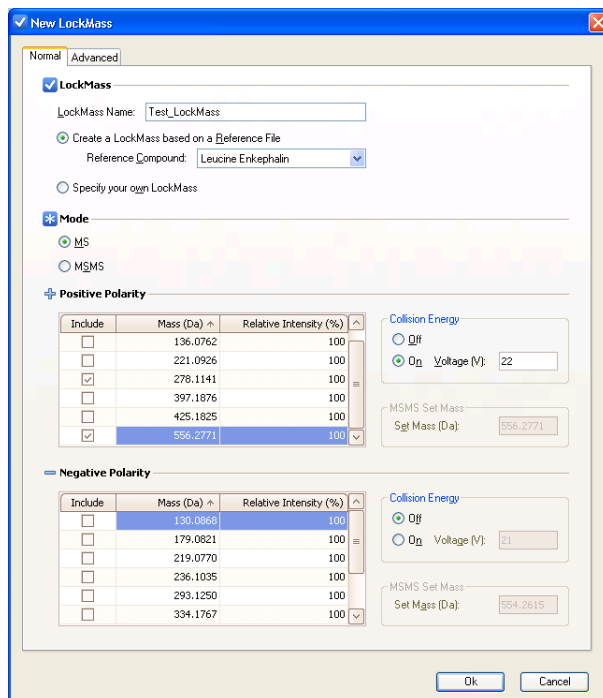

Figure 115 - LockMass dialog box
15. The LockMass dialog box is similar to Figure 115.